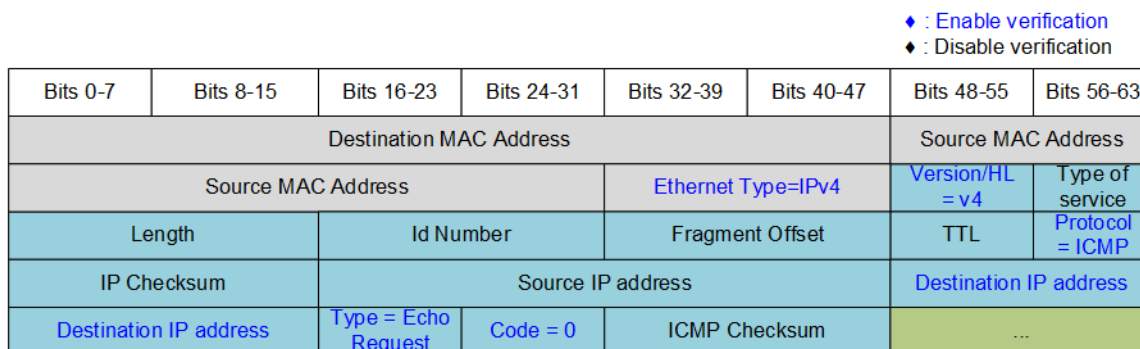

Figure 3-3 ICMP Echo request packet filtering
- 1) Set the filtering parameters of UserRxMAC to receive only ICMP Echo request packet by using `init_filter` function, as described in topic 3.2. The filtering data of ICMP Echo request packet contains the following fields (blue color in Figure 3-3).
Note: Figure 3-3 shows only 38-byte of ICMP packet, the actual size of ICMP packet is 42 bytes (Rest of header field is excluded) because the filtering logic in UserRxMAC module is designed to support up to 38-byte header data.
Description	Write RXEMAC_CMD_INTREG to pause the storing of received packet in the slow-port connection. Next, Write RXEMAC_HDVAL_ADDR and RXEMAC_HDEN_ADDR for filtering an ICMP Echo request packet as shown in blue color text of Figure 3-3.